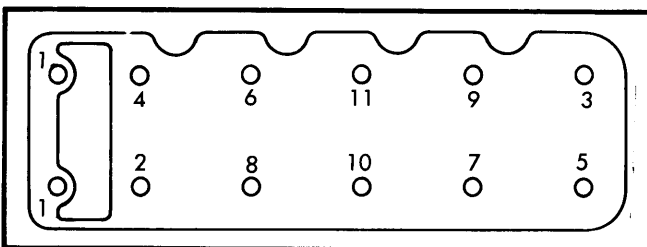

Fig. 1 Cylinder Head Bolt Removal Sequence
3) Remove cylinder head cover, breather and semi-circular packing. Turn crankshaft until No. 1 piston is at TDC of compression stroke. Using white paint, scribe mating marks on timing chain in line with timing mark on camshaft sprocket if links are not plated. Remove camshaft sprocket bolt and distributor drive gear. Remove camshaft sprocket. Remove cylinder head bolts in sequence shown in Fig. 1. Loosen bolts in 3 stages to prevent cylinder head warpage.
Installation — 1) Clean all gasket surfaces of cylinder block and cylinder head. Install new cylinder head gasket, using no sealant. Do not reuse head gaskets. Install cylinder head assembly and tighten cylinder head bolts in reverse order of that shown in Fig. 1. Beginning with highest number first, tighten bolts in sequence in 2 stages, first to 35 ft. lbs. and then to 69 ft. lbs.